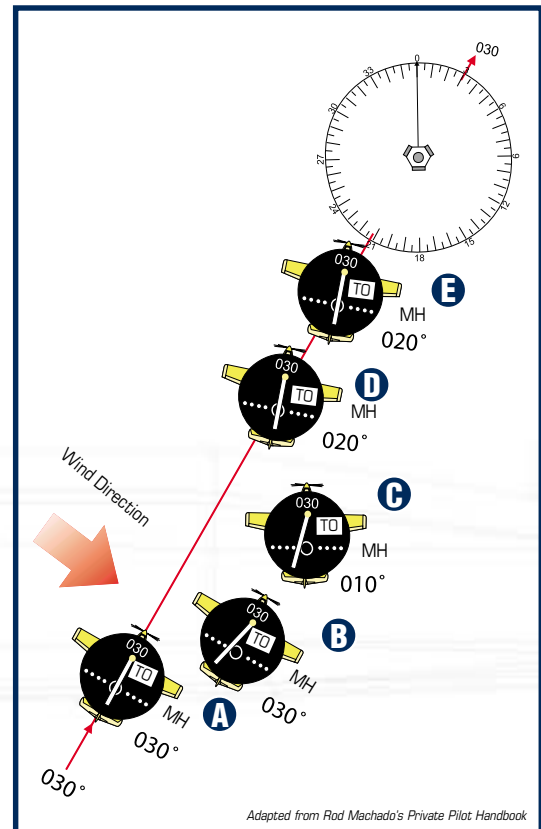

Figure 12-11
1. Identify the effect of wind. Airplane A in Figure 12-11 has just intercepted the 030-degree course to the VOR. Under a no-wind condition, Airplane A could hold a 030-degree heading and fly to the VOR with a centered needle. With a little wind, however, Airplane A is sure to drift off course. Determining wind direction and making the proper correction is the first step to successful navigation.
2. Reintercept the course. If the needle moves to the left, then the selected course is to the left, as shown by Airplane B. The airplane was blown to the right of the course (implying the crosswind is from your left). Once you've identified the wind direction, you need to get back on course before applying a wind correction. You can get back on course by intercepting at a 20-degree angle, as shown by Airplane C in Figure 12-11 (strong winds sometimes require that you reintercept at a 30- to 40-degree angle).
good or bad the film might be, so you try it (although the last movie I watched was so bad that I walked out. Unfortunately, it was on TV at the time, and I walked out of my own house). Once you're on course, turn the airplane so it's pointed 10 degrees into the wind (which means it's now heading 020 degrees, as shown by Airplane D in Figure 12-11). Be patient, Grasshopper. Wait to see what happens.